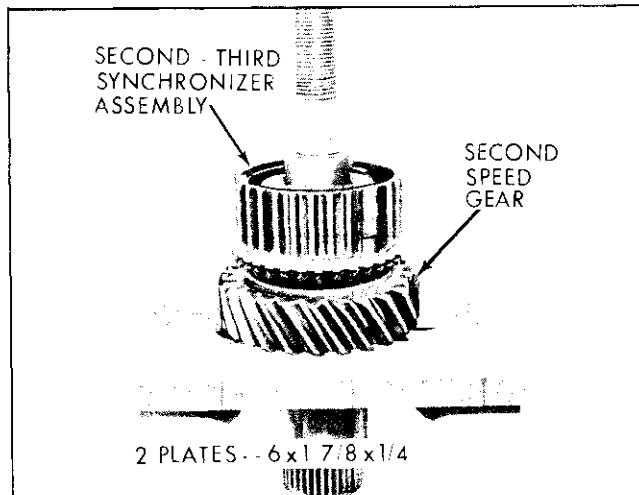

Fig. 7B-18 Removing Second - Third Synchronizer and Gear
6. Install second-third synchronizer sleeve (Fig. 7B-15).